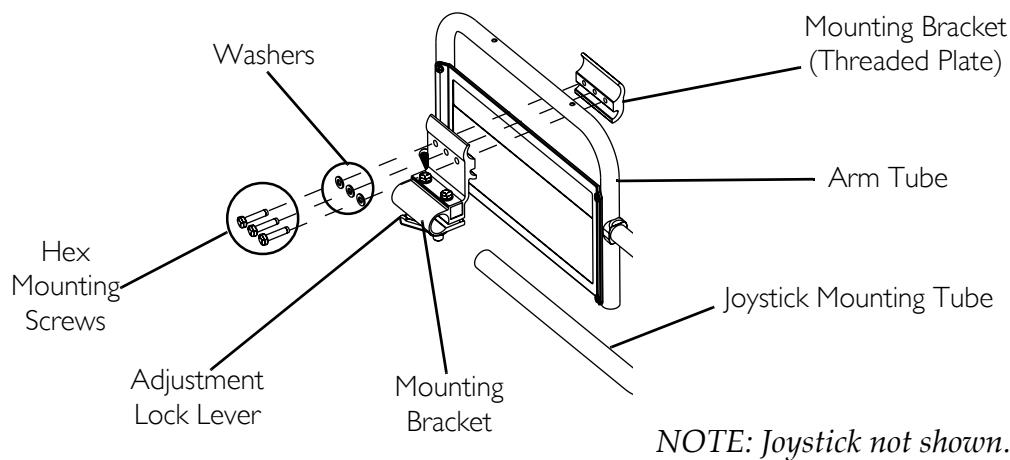

FIGURE 5.10 Repositioning the Joystick - ASBA Seat Model
NOTE: For this procedure, refer to FIGURE 5.10 on page 41.
4. Reposition mounting bracket on opposite arm tube ensuring the threaded plate of the mounting bracket is on the inside of the arm tube as shown in FIGURE 5.10.